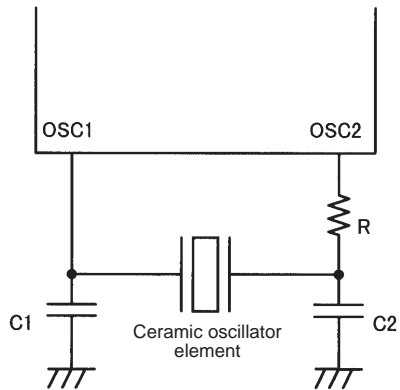

Figure 3 Ceramic Oscillator Circuit
- Notes: 1. Allowed up to the amplitude generated when the oscillator shown in figure 3 is used with the recommended circuit constants and driven by the IC.